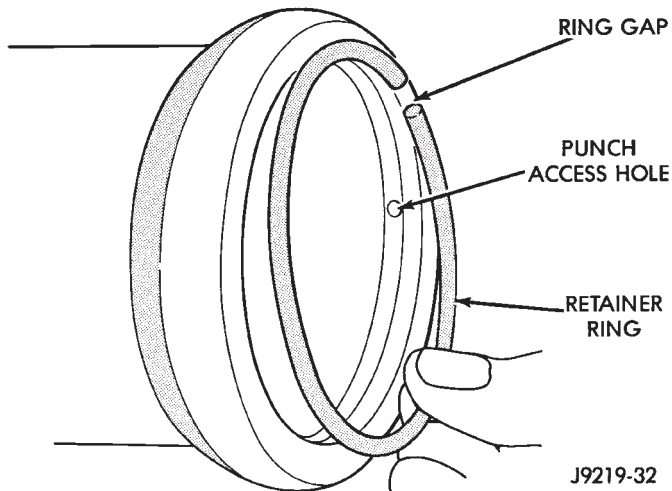

Fig. 18 Installing The Retaining Ring
- (1) Install O-ring into housing.
- (2) Install plug, tap lightly with a plastic mallet to seat it.
- (3) Install retaining ring with open end 25 mm (1 inch) from access hole (Fig. 18).